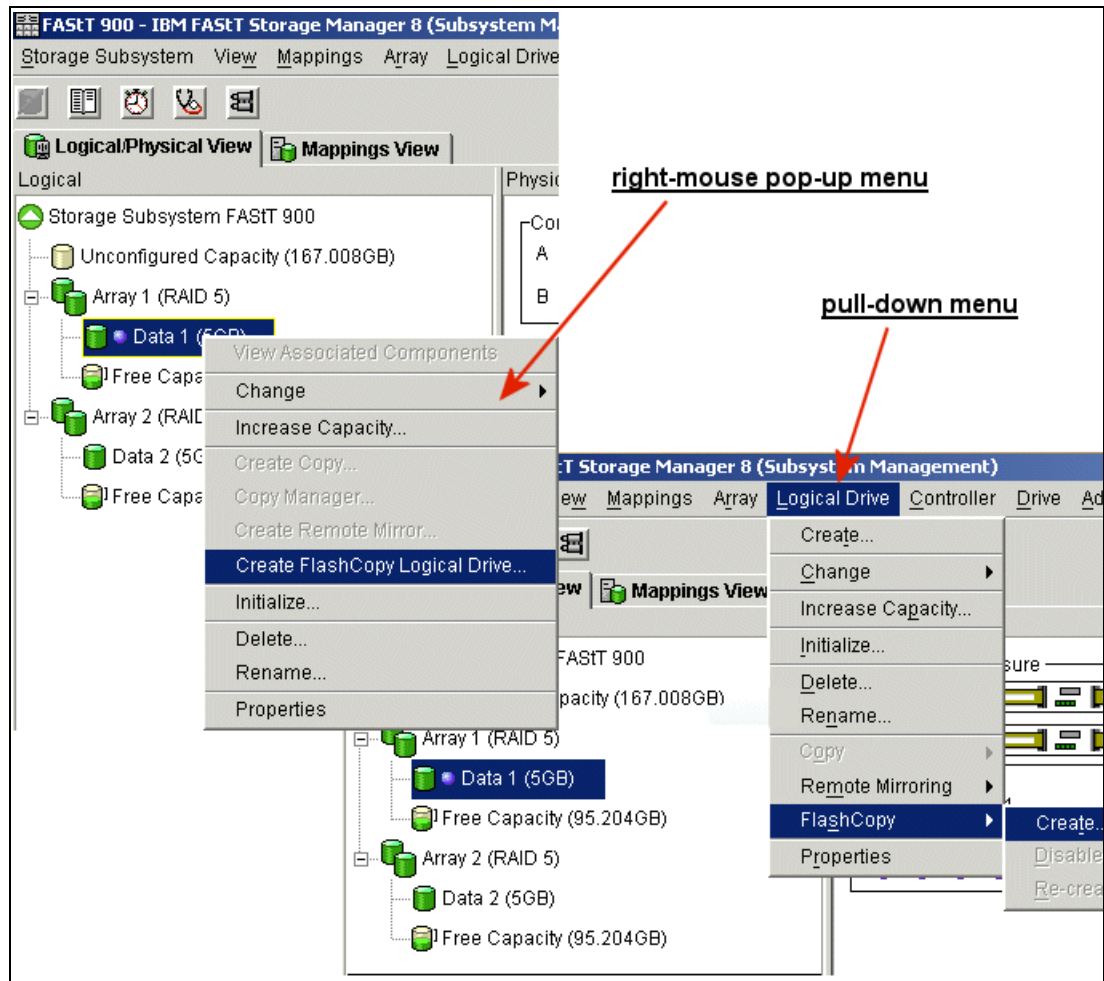

Figure 7-9 Create FlashCopy menu options
- b. Click **Logical Drive -> FlashCopy -> Create**. Or you can right-click and select **Create FlashCopy Logical Drive**. See Figure 7-9.